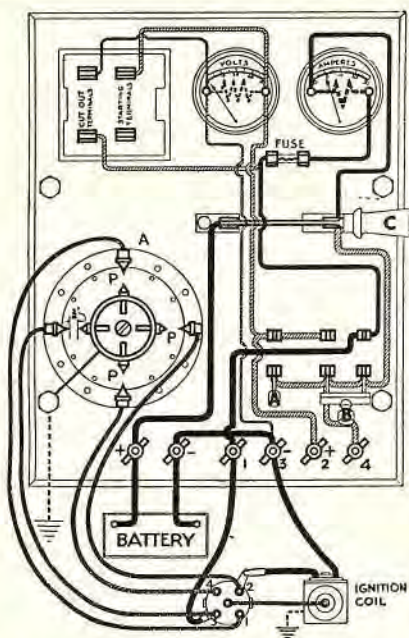

Fig. 4. N. E. ignition test-board for testing the ignition system, generator, and cut-out.
The N.E. ignition test is made on a special test bench (Fig. 4) with apparatus designed for the purpose.
The ignition unit is placed on the test-bench and connected to a motor which drives the ignition unit under conditions as nearly like those encountered in service as practical, and is carried out with a range of speeds equal to that of the engine. The test-board shown in Fig. 4 is the N.E. testing outfit
The ignition unit, consisting of distributor, interrupter, and coil, all in one unit (see Index for "Dodge ignition unit"), is connected with a motor which drives it at various speeds as stated above. The distributor is connected with an adjustable spark device (Fig. 4), with the points (P) adjusted to $\frac{1}{4}$ " gap. The unit is first driven at 1,200 r.p.m., and switch (C) is closed. High-tension sparks are at once produced at points (P). The speed is varied from 1,200 to 2,000 r.p.m. A low-reading ammeter is inserted in the primary circuit as shown.